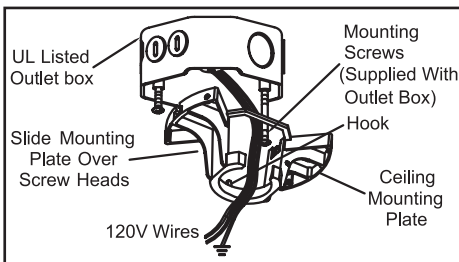

Figure 8
1. Pass the 120-volt supply wires through the center hole in the ceiling mounting plate as shown in Figure 8.
2. Install the ceiling mounting plate on the outlet box, by sliding the mounting plate over the two screws provided with the outlet box (Figure 8). If necessary, use leveling washers (not included) between the mounting plate and the outlet box. Note that the flat side of the mounting plate is toward the outlet box (Figure 8).